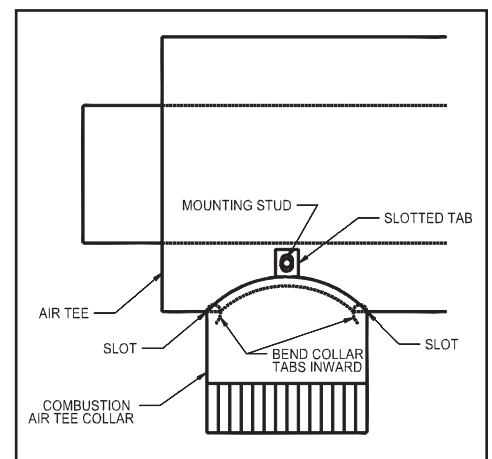

Figure 8
6. Air Tee Collar Installation: If the venter is to be used to provide combustion air to an appliance (See Figure 8):
In order to obtain proper system draft, the power venter has an airflow adjustment damper built in. When used in a system with a barometric draft control, this damper should be used to make coarse draft adjustments while the barometric should be used for finer adjustments. Loosen the locking screw on the air flow adjustment damper on the outer pipe of the power venter. (See Figure 8) Adjust the damper to the full open position. Follow appliance manufacturer's procedures for starting the heating appliance. Then adjust the thermostat to call for "Heat". After the system has operated for several minutes to stabilize flue gas temperatures, check for negative draft or up-draft at the heating appliance outlet or air flow into the draft hood. Use a draft gauge, velocity meter or match test procedure. Adjust the adjustment damper closed to obtain the minimum air flow required to maintain draft. Then increase air flow slightly (10% over minimum air flow rate) to ensure proper venting. For oil-fired or gas-fired power burners, adjust draft to proper over-fired draft.